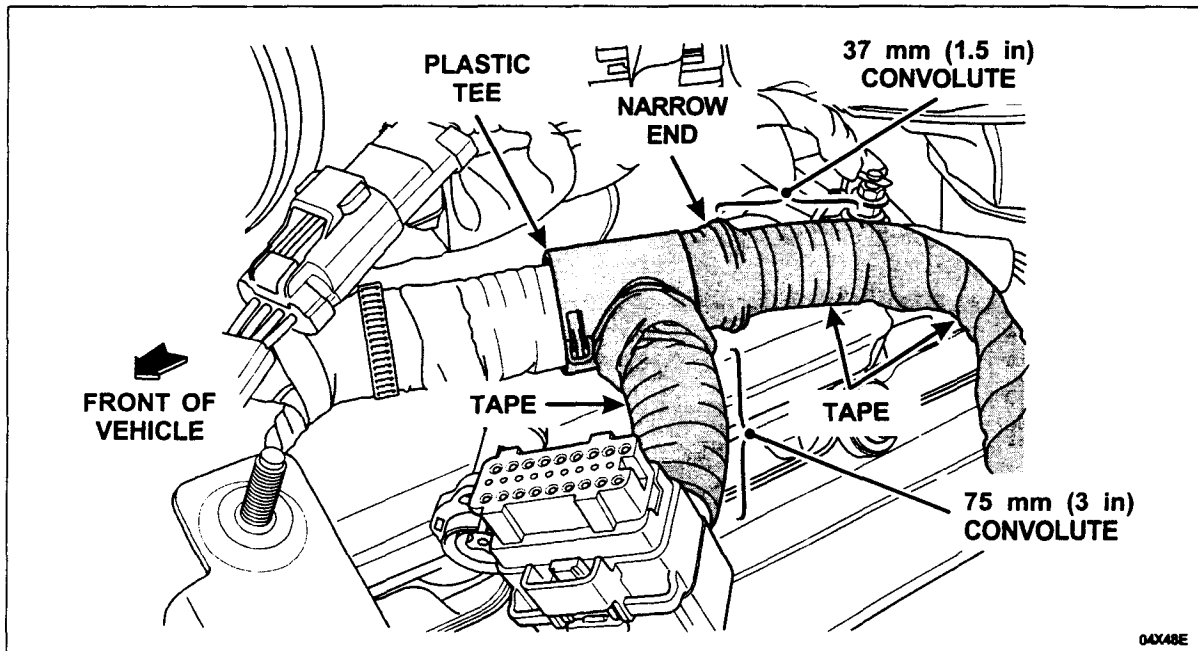

FIGURE 5
2. Position and install the plastic TEE over the forward harness take-out with the narrowed end toward the rear of the vehicle. Do not latch the tee closed at this time. See Figure 5.
3. Cut two (2) pieces of 11/16" convolute: one approximately 75 mm (3 inches) long, the other about 37 mm (1.5 inches) long. See Figure 5.
4. Position the 75 mm (3 inches) section of convolute over the harness takeout from the plastic TEE to the FICM connector. See Figure 5.
5. Position the 37 mm (1.5 inches) section of convolute between the two (2) harness take-outs. See Figure 5.
6. Close the TEE around the harness and over the convolute, making sure that all 4 latches are engaged. See Figure 5.
7. Using the supplied tape, secure the plastic TEE, both sections of convolute and the connector covers. See Figure 5.